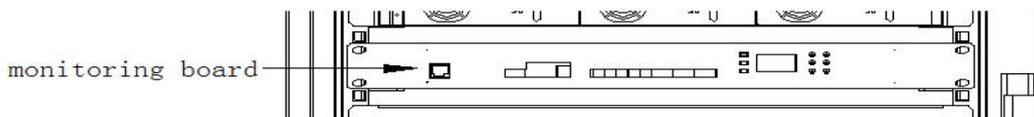

Figure 5-3 Remove the cover
1. Unscrew the fixing screws of the cover of the M521S monitoring board, and remove the cover, as shown in Figure 5-3.